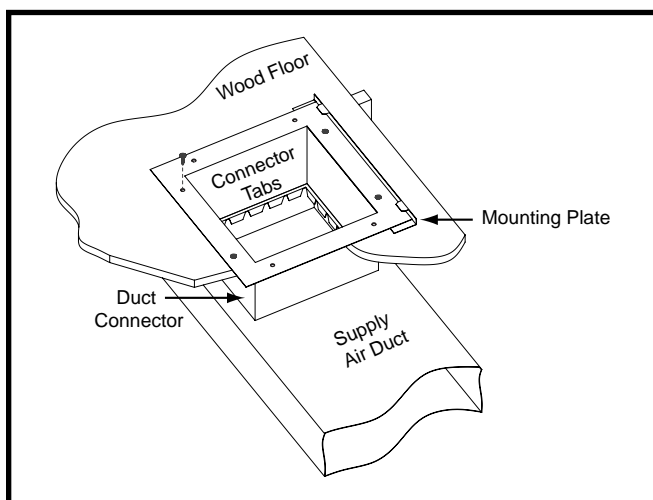

Figure 8. Standard Duct Connector Installed
Duct connectors are recommended for heated air distribution in under-the-floor duct systems. With this system, furnaces may be installed on combustible flooring without a separate sub-base. The furnace rear mounting plate (Figure 8, page 10) supplied with the duct connectors is recommended for use with this type of installation.
2. Mark the cut-out area on the supply air duct by tracing around the connector tabs (Figure 8) of the duct connector.
5. Install the mounting plate (Figure 8) under the back side of the duct connector. Align the screw holes in both components.